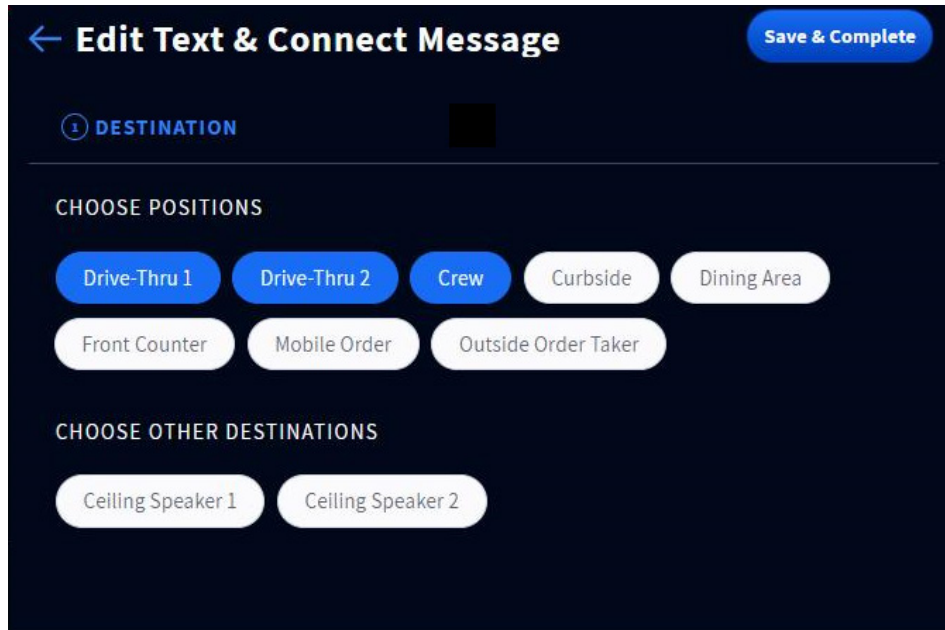

Fig. 8.10
- This opens the Edit Text & Connect Message page (Fig. 8.10). Tap the crew positions listed to target a specific group of headset users. The selected positions change to blue. (Tap any blue
- For example, Fig. 8.10 shows Drive-Thru 1, Drive-Thru 2, and Crew selected. Only these three headset groups will receive messages sent via the Text & Connect feature.